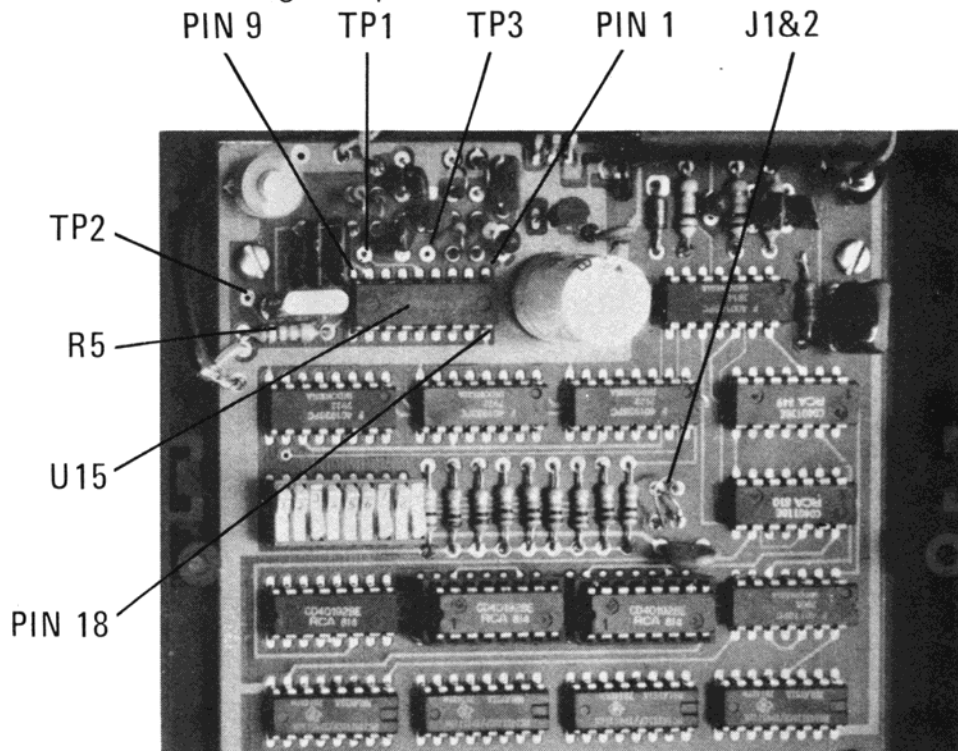

Fig. 21 — DS-400 shown is reversed scan direction
10. Short the 1K resistor (R5) inside 400. Refer to *Fig. 21*.
1. Remove D901 from the radio. (See Fig. 21)
The direction which the radio will scan is determined by jumpers J1 and J2. Should the program code call for a reversed scan direction, rewire jumpers J1 and J2 as shown in Fig. 21.